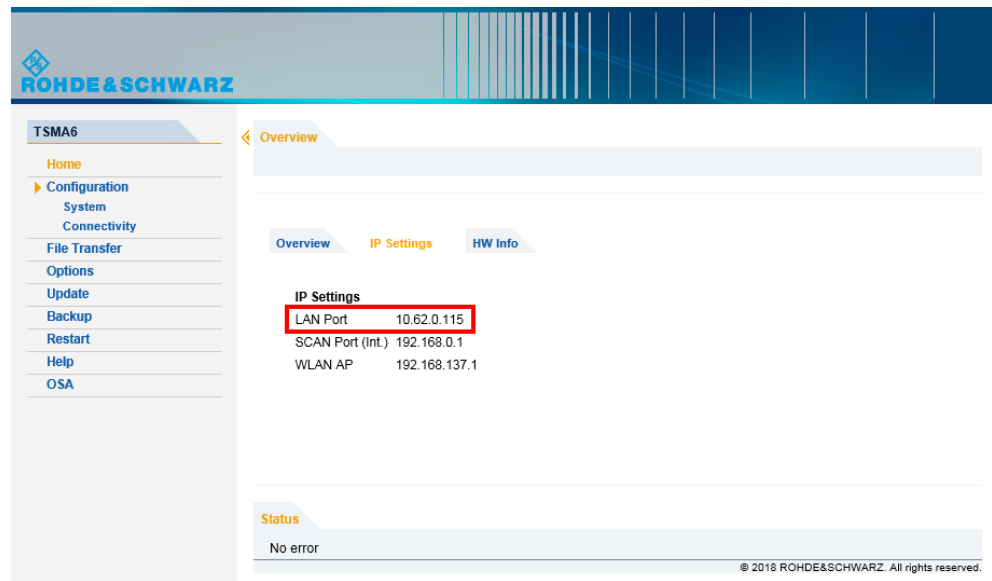

Figure 11-4: Web GUI - Overview > IP Settings
See Figure 11-4.
1. Use the IP address displayed in the R&S TSM A6 web GUI (see Figure 11-4).